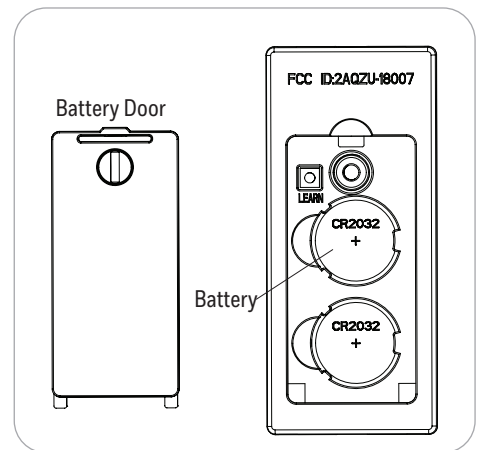

Figure 5.9
9. Remove the battery door from the back of the remote using a flat-head screwdriver (not included). Insert the two CR2032 batteries into the remote; ensure the positive pole of the batteries face up (as pictured) and then replace the battery door. Press the HIGH SPEED button to ensure the LED indicator illuminates and the fan turns on (Figure 5.9).